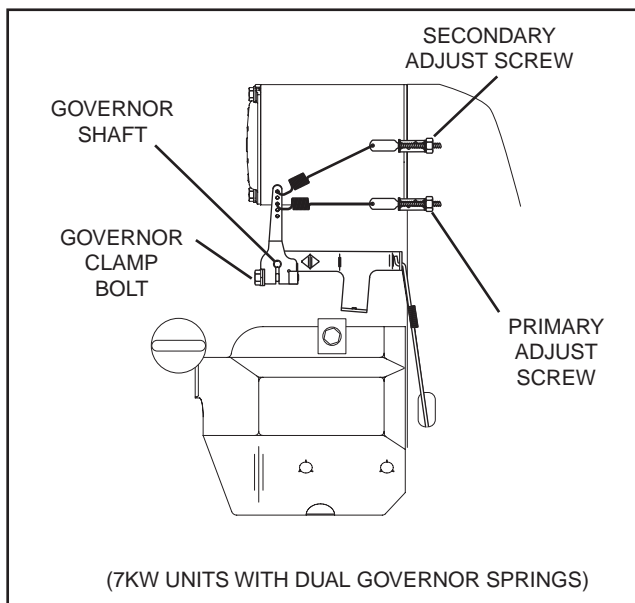

Figure 8. Engine Governor Adjustment Single Cylinder Engines
1. Loosen the governor clamp bolt (Figure 8).